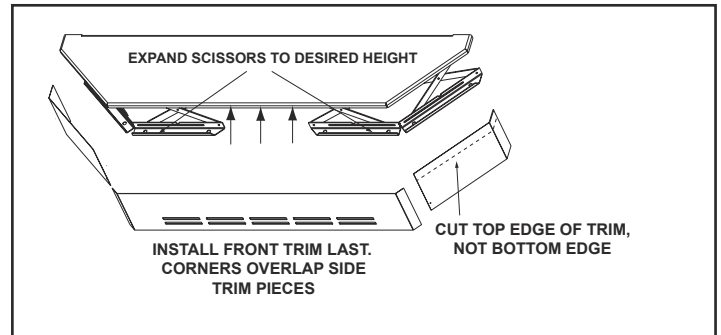

Figure 20.2
2. Expand scissors to desired height. Tighten screws to hold in place using Phillips head screwdriver. **Figure 20.2.**